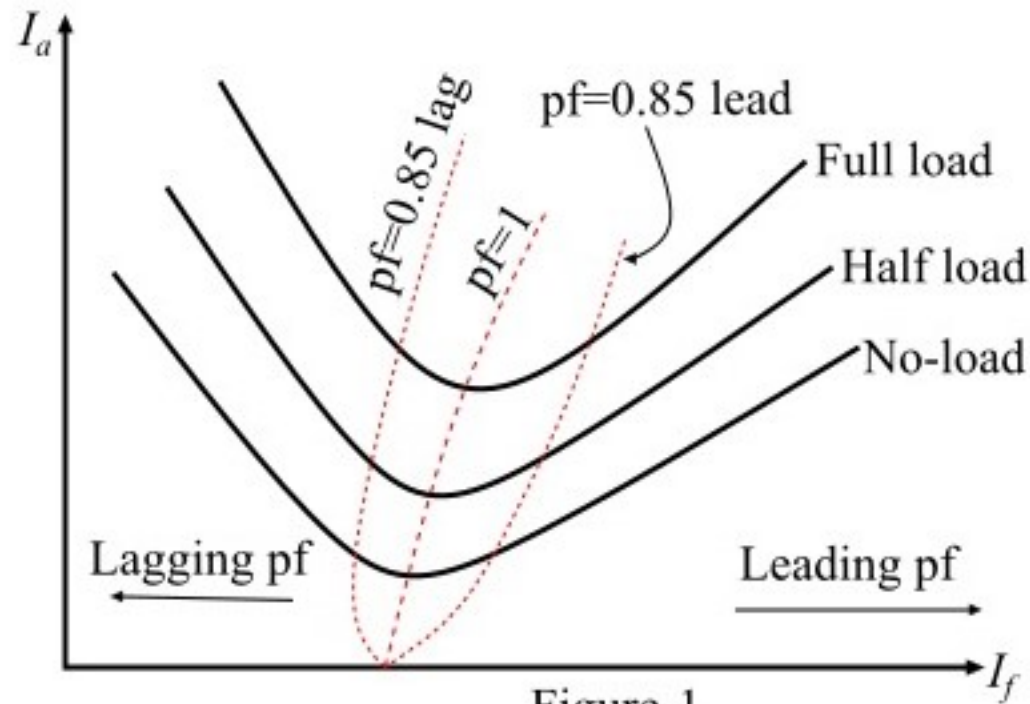

Figure-1
- ❖ If a graph is plotted between armature current (I_a) and field current (I_f) at no-load, the lowest curve in Figure-1 is obtained.
- ❖ In order to obtain a family of curves as shown in Figure-1, the above procedure is to be repeated for various increased loads.